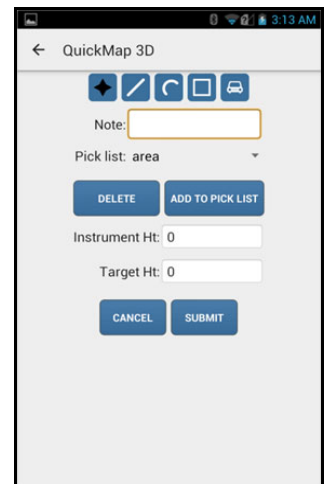

Figure 82
1. On the Description Detail screen (Figure 82), enter the desired description into the Note field.
1. On the Description Detail screen (Figure 82), tap the drop-down arrow ▼ to the right of the Pick List field.
1. On the Descriptive Detail screen (Figure 82), tap the drop-down arrow ▼ to the right of the Pick List field.